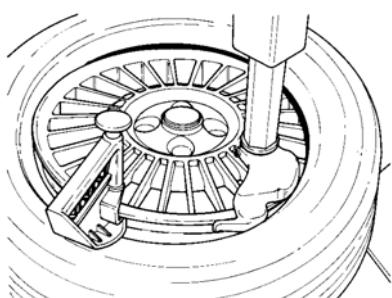

Fig. 4.2-4
Follow these instructions using the Bead Holding Clamp (Fig. 4.2-4).
- Position the bead clamp #EAA0247G70A to hold the tire bead into the rim drop centre (Fig. 4.2-4).